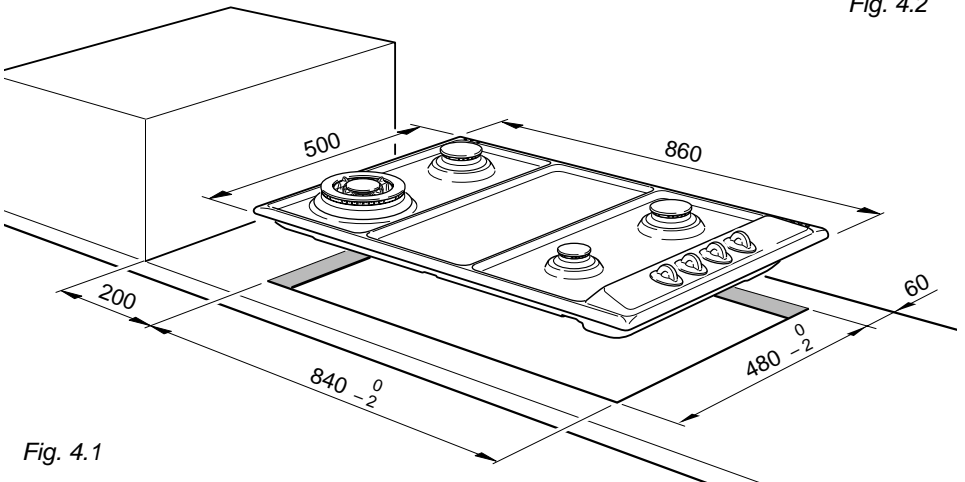

Fig. 4.1
In order to install the cooker top into the kitchen fixture, a hole with the dimensions shown in fig. 4.1 has to be made, bearing in mind the following:
- ✓ the cooker top must be kept no less than 200 mm away from any side wall (fig. 4.1).